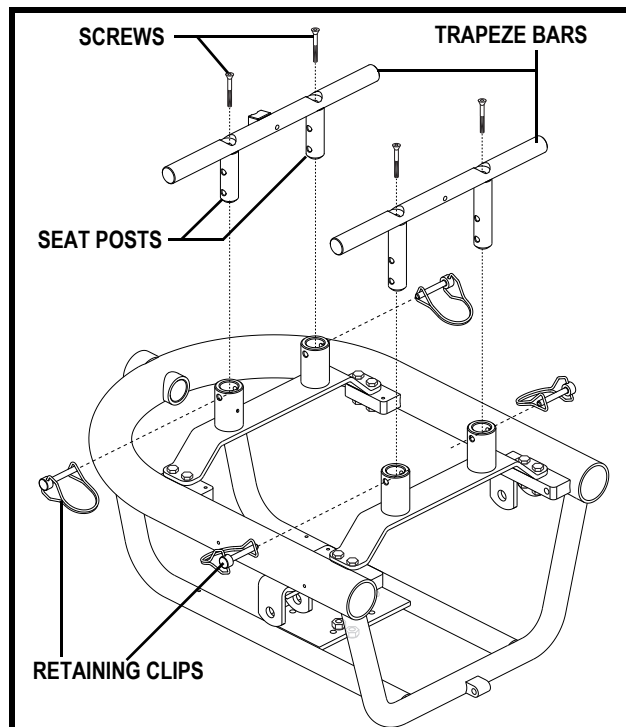

Figure 14. Trapeze Bar Adjustment
7. Loosen the screws that attach the trapeze bars to the seat posts. **See figure 14.**
8. Remove the retaining clips that secure the seat posts to the power base. **See figure 14.**